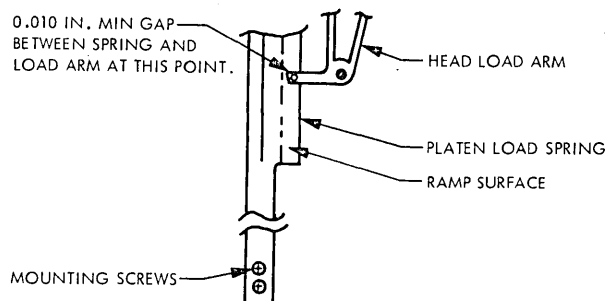

Figure 4-2. Head Load Arm Adjustment
- (8) With the head at track 76, insert a 0.010 feeler gauge between the end of the extension on the head-load arm and the ramp on the platen load spring (Figure 4-2).
- (9) Move platen load spring horizontally until tip of the load arm extension contacts the feeler gauge.
- (10) Remove feeler gauge; recheck the gap by re-inserting the feeler gauge and adjusting the platen load spring, if necessary.
- (11) Perform a seek to track 0. Ensure that the gap between the head-load arm extension and the ramp on the platen load spring is never less than 0.010 inch at any time during the seek operation.
- (12) Reset gap for 0.010 inch clearance at that point, if necessary.
- (13) Ensure that a gap of 0.010 to 0.020 inch is maintained throughout carriage travel. Secure platen load spring mounting screws.
- (2) Install a diskette known to have usable recorded data in the drive. Perform a seek to track 0.
- (3) Toggle the Head Load signal and measure the time from the start of the trace to the usable data envelope.
- (4) Adjust the Allen-head adjustment screw on the head load solenoid frame until the 83 percent peak amplitude (Figure 4-2) point is met at 40 msec after the Head Load command is given. Secure the Allen-head screw with the locknut.
- (5) Check gap between armature and solenoid coil post (gap must not exceed 0.022 inch).
- (6) Perform a seek to track 76 and assure that head load time is 40 msec or better.
- (7) Unload the head and ensure that the head load pad leaves the diskette surface for any portion of a revolution.
- (8) Perform a seek to track 0 and ensure that the head load pad does not touch the disk surface for any portion of a revolution.